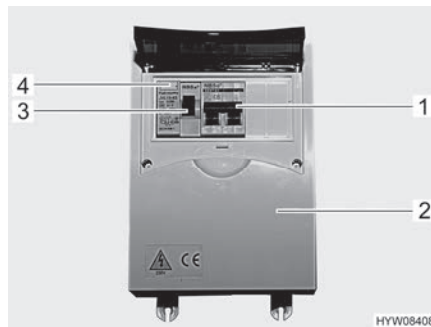

Fig. 82 230 V fuse box with safety cut-out and FI-switch
- Switch off the safety cut-out (Fig. 82,1) in the fuse box (Fig. 82,2).
- When the vehicle is connected to the 230 V supply, press the test button (Fig. 82,4) of the fault current protection switch (FI-switch) (Fig. 82,3) in the fuse box (Fig. 82,2). The fault current protection switch must trip.
- Switch the fault current protection switch (Fig. 82,3) back on again.